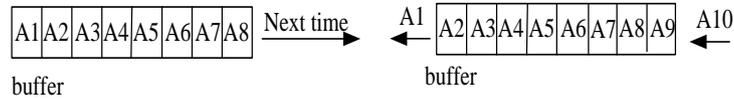

Figure 3-24
2. Assuming the reading average time is set to = 8, the average method is set to MOVING, the readings sampling is that the device removes the oldest sample in the buffer and saves a new sample, then averages them in repetition as Figure 3-24 shows.